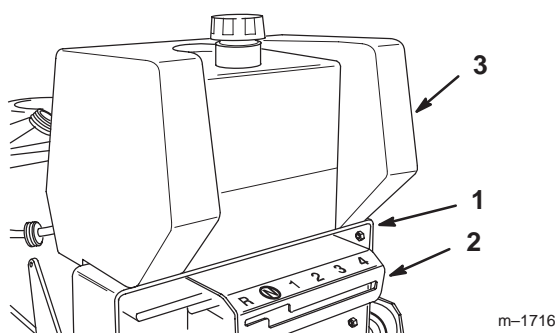

Figure 1
1. Slide control panel over shift lever and under bottom of rear frame (Fig. 1). Align fuel tank to top of rear frame (Fig. 1).